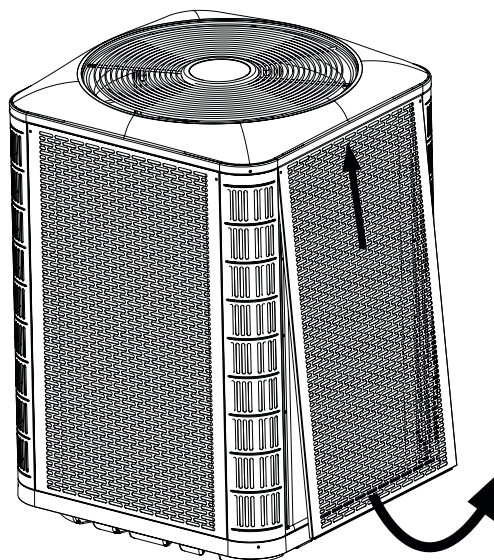

Figure 3. Panel Removal
2. Slide the panel up towards the top pan in order to clear the bottom flange from the base pan. See Figure 3.